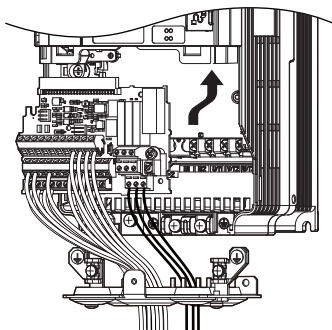

Figure 7.60 Drive Replacement: Installing the Terminal Board
- Once the main circuit has been wired, connect the terminal block to the drive as shown in Figure 7.60. Use the installation screw to fasten the terminal block into place.